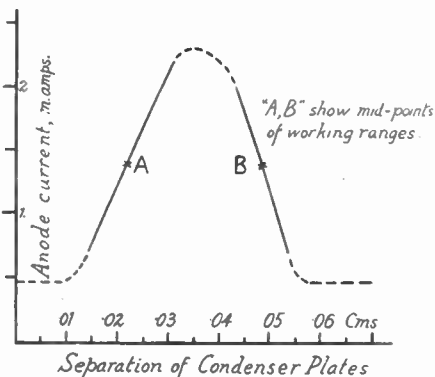

Fig. 2. A graph indicating the action of the apparatus, and how the readings are affected by separating the condenser plates.
meters in diameter and, perhaps one-fifth of a millimeter apart. When these plates move, in or out, the current in the milliammeter (MA) alters as shown in Fig. 2. There are two parts of this curve that are almost perfectly straight, provided that the coil (L_1, L_2) and the battery voltage (V) are properly chosen and adjusted. Figure 3 displays the complete arrangement employed when the very greatest sensitivity is desired. The dotted lines indicate the part of the apparatus that is boxed in as a unit.
If, for any reason, the anode current changes from this value A , to say, $A + a$ (or $A - a$) then the whole of the difference (a) will go through the galvanometer provided the resistance of R_r is very much bigger than that of the galvanometer. Finally it will be clear, that if A corresponds to any point on the straight parts of the curve Fig. 2, then the deflection of the galvanometer is exactly proportional to the slight displacement of the condenser plate.